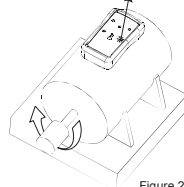

Figure 2
- Press "ON" button, power indicator illuminates and the test begins. "Clockwise" (R) or "Counter-clockwise" (L) rotation indicator illuminates, indicating the motor is rotating in a "clockwise" or "counter-clockwise" direction. See Figure 2 for details.